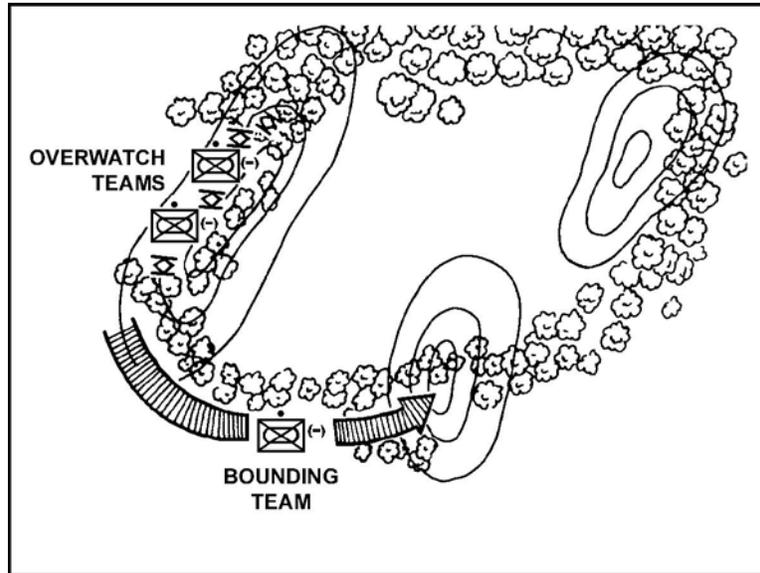

Figure 5. Dismount element--bounding overwatch.
- c. Use the bounding overwatch technique when contact is expected and the terrain will not permit mounted movement, or when the dismount element is separated from the fighting vehicle element (Figure 5). This is the most deliberate and cautious of the movement techniques. The platoon leader directs the overwatching force to cover the progress of the bounding force from a covered, concealed position offering observation and fields of fire against likely enemy positions. The overwatching force must be able to immediately support the bounding force by providing suppressive fire and maneuver if the bounding force makes contact. The bounding force moves forward to a preselected position covered by the overwatching force. It secures the new position so that the overwatching force can then move forward. The length of each bound is tied to the observation, fields of fire, and range of weapons of the overwatching force.